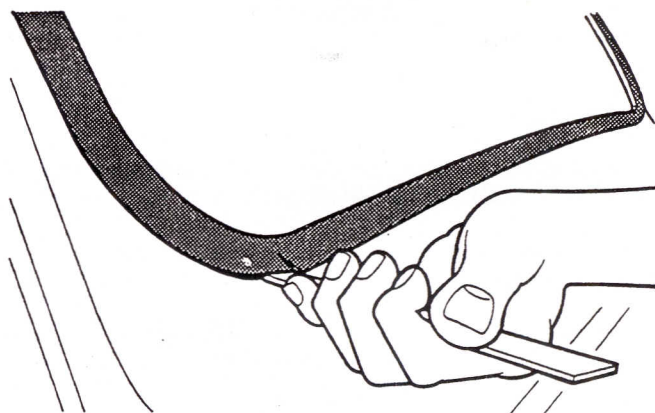

Figure 5
4. The outside lip of the weatherseal should be checked for correct positioning using a suitable tool. See Figure 5.